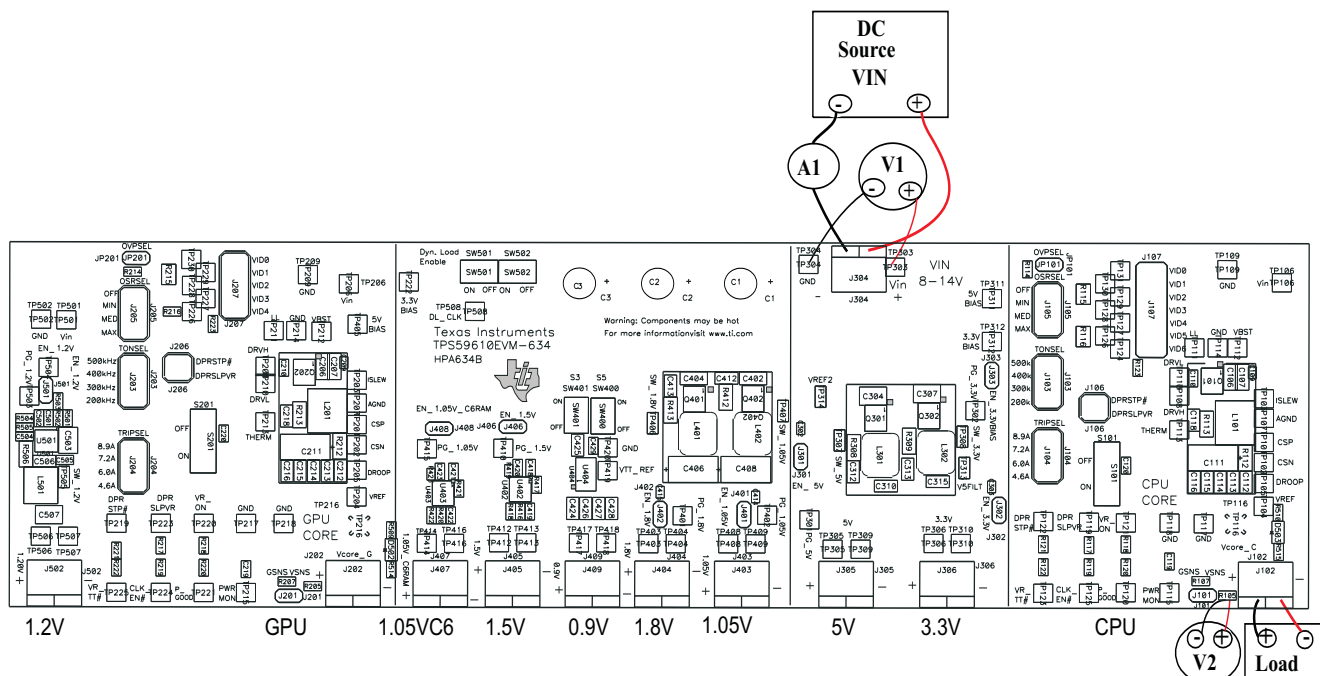

Figure 7. TPS59610EVM-634 Recommended Test Setup
Voltage Source VIN: The input voltage source VIN must be a 0-V to 14-V variable dc source capable of supplying 10 Adc. Connect VIN to J304 as shown in Figure 7.
Figure 7 is the recommended test setup to evaluate the TPS59610EVM-634. Working at an ESD workstation, ensure that wrist straps, bootstraps, or mats are connected referencing the user to earth ground before handling the EVM.
1. Prior to connecting the dc input source VIN, it is advisable to limit the source current from VIN to 10 A maximum. Ensure that VIN is initially set to 0 V and connected as shown in Figure 7.
2. Connect a voltmeter V2 at J101 to measure CPU 1-Vcore voltage as shown in Figure 7.